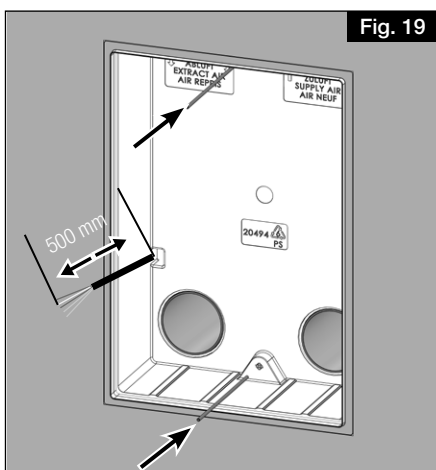

Fig. 19
The connection cable must protrude 500 mm towards the internal side of the wall (see Fig. 19)! The exact cable length must be adjusted during the installation of the unit.
2. Screw two threaded rods into the wall installation element (see Fig. 19).